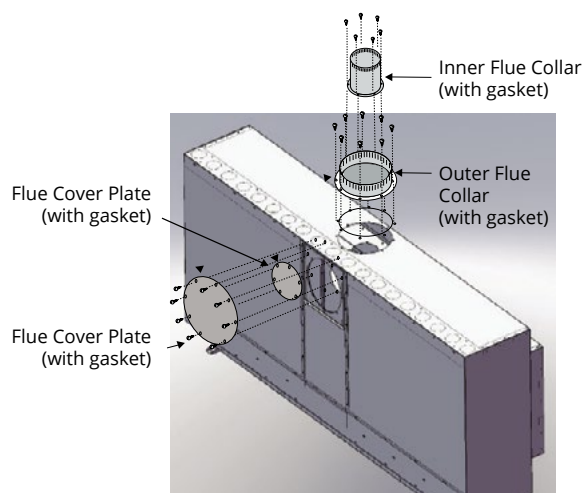

Figure 4. Flue cover and collar removal, Top Vented fireplace.
4. Install the collars to the rear vent outlet using the included hardware, as shown in Figure 4.b